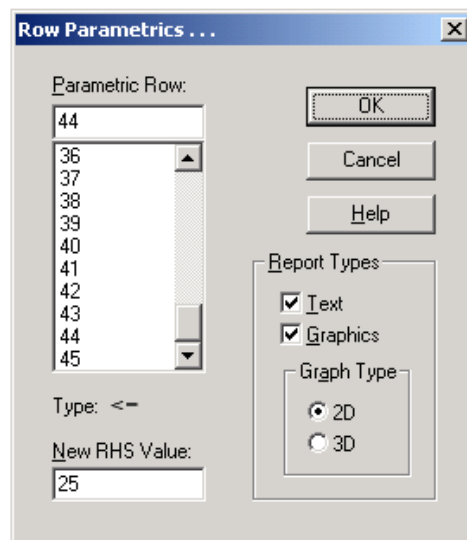

Figure 4.2: Setup Parametric options.
Step 4.2: Setup Parametric Row and New RHS. (See Figure 4.2)